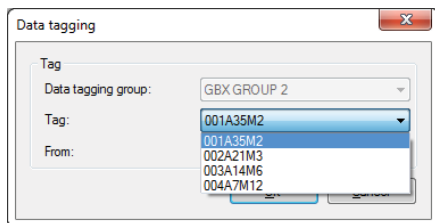

Fig. 11. Select the tag.
- In the **Meas. data** window, click **Add** and then select the tag (→ fig. 11).